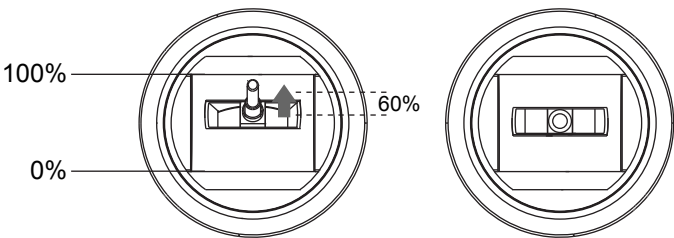

Figure 4-8 Push the Throttle Upward (60% in range)
2. Push the Throttle upward to the position of 60% in range, i.e. slightly above the middle point (*Figure 4-8*), and hold for 2 seconds. In this case, the aircraft may fly upward slightly when the remote controller control is recovered.